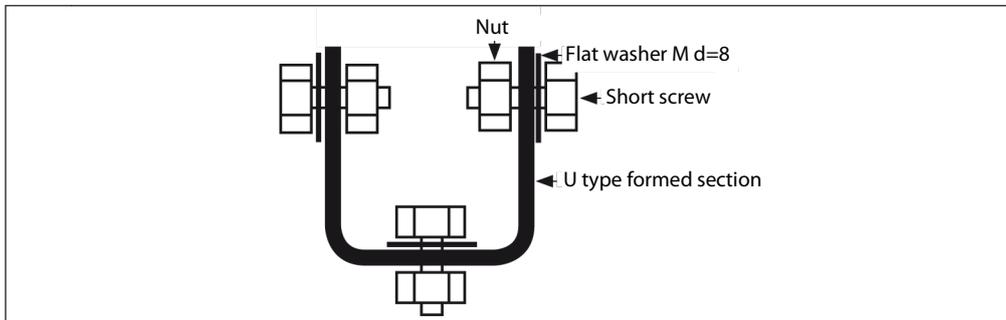

Figure 08
- Prepare two narrow U formed sections as shown in the following figure (figure 08)